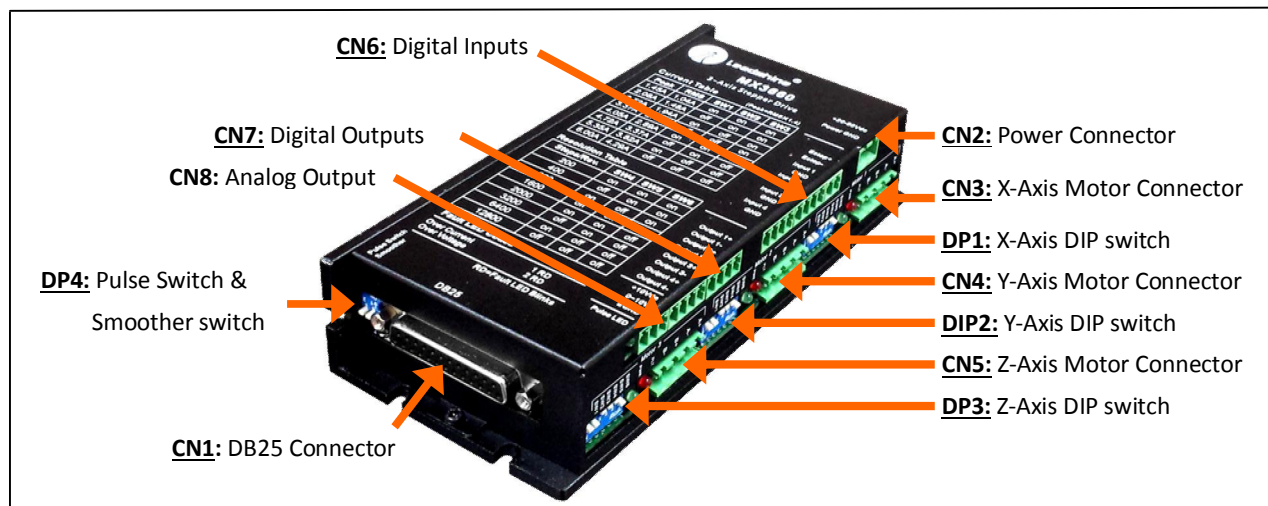

Figure 3 MX3660 layout
Before you start hardware connection, refer to the following MX3660 layout diagram (figure 3) for connector/DIP switch location. Read the MX3660 datasheet for each connector explanation. Then, get the following prepared:
The power supply connector is located at the upper left side of MX3660 (“CN2” in Figure 3). The power supply of the MX3660 can be connected as illustrated in Figure 4. Although MX3660’s working voltage is 20-60 VDC, we suggest the use of a 24-54 VDC power supply to leave room for back EMF voltage charge back during motor deceleration.
There are 3 stepper drive modules for the MX3660 to allow connections of up to three 2-phase stepper motors. Because of the wide output current range from 1.45 to 6.0A for each stepper drive module, the MX3660 can drive various stepper motors in frame sizes NEMA 17, 23, 24, and 34. You can find the 3 stepper drive module location at CN3, CN4, and CN5 on Figure 3. Those stepper motors can be 4-lead, 6-lead, or 8-lead stepper motors.
*The E-Stop connection is required.* The E-Stop connector is located next to the power connector (Figure 3). **By default, the MX3660's activation requires an emergency stop switch connected, or having the two connection pins, "ESTOP+" and "ESTOP-", shorted.**
The MX3660 allows individual settings of the output current and micro step resolution for each stepper motor, via the 6-pin DIP switches of three stepper drive modules (DP1, DP2, and DP3 on Figure 3).
*The PWM pin connection is optional.* The MX3660 can take PWM signals from the controller, through Pin 14 of the DB25 connector, transform it into an analog signal, and output as analog voltage signal at the “0-10V” pin of the analog output connector (Figure 3). This will allow the control of an external analog device such as a VFD for spindle speed control in a CNC router.